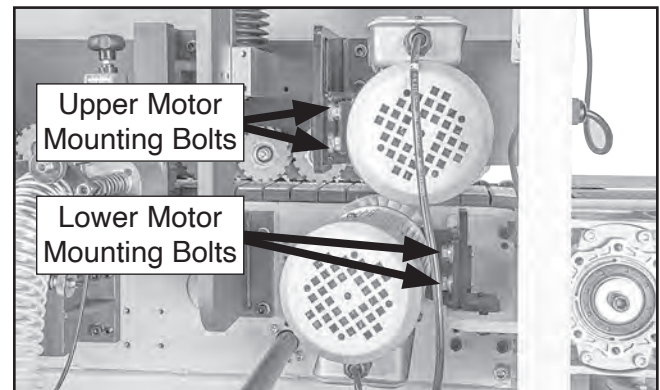

Figure 127. Buffing wheel adjustment bolt locations.
4. Loosen (2) upper buffing motor mounting bolts shown in **Figure 127**.